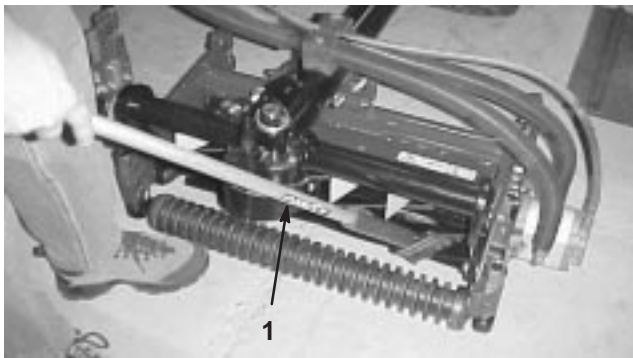

Figure 18
8. Apply lapping compound with a long handle brush (Toro Part No. 29-9100). Never use a short handled brush (Fig. 18).